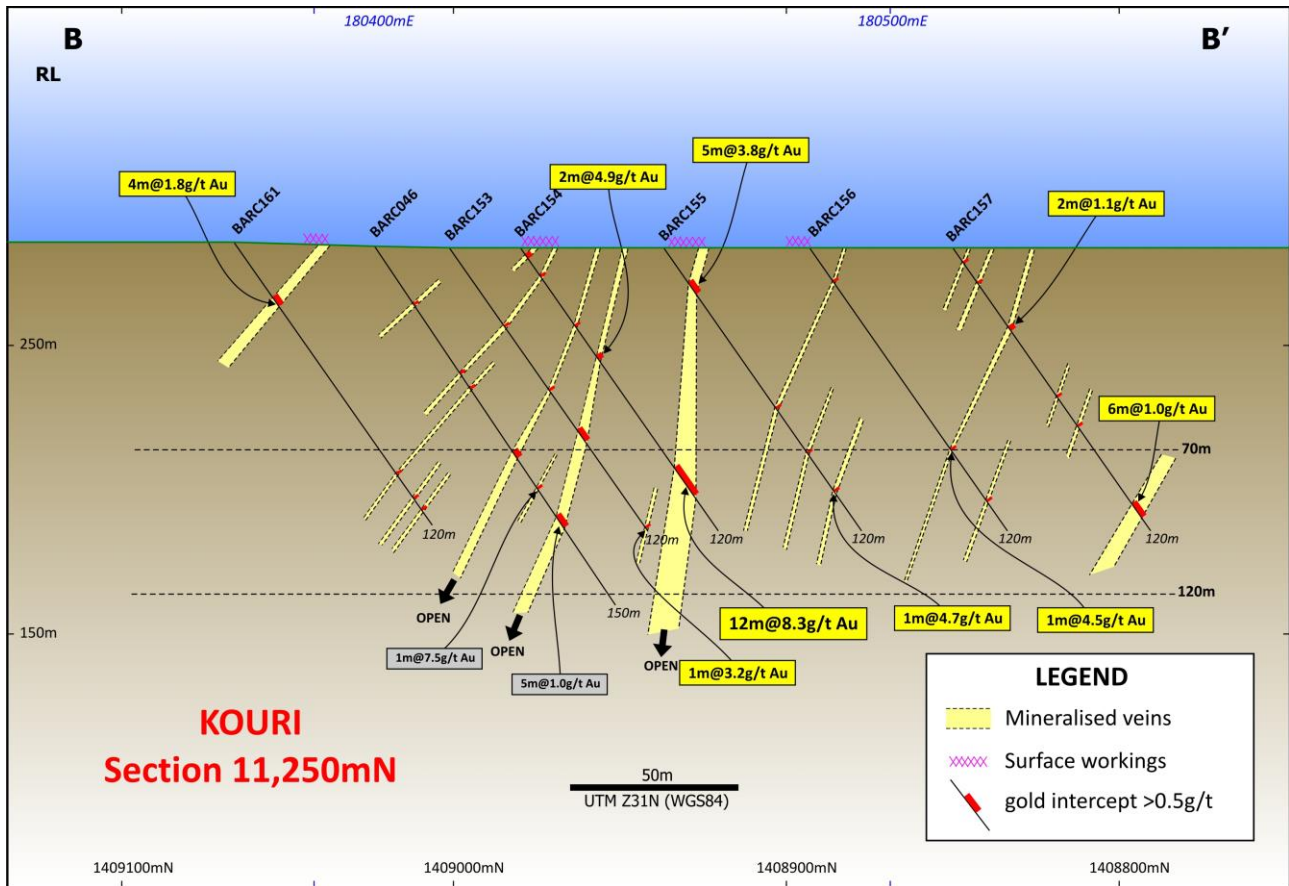

Figure 1. Drill section 11,250mN at Banouassi. Significant new gold intercepts depicted in yellow boxes.
- **12m at 8.3 g/t gold** from 92m, including **1m at 78.9 g/t gold** in BARC154 on Section 11,250mN (Figure 1); and